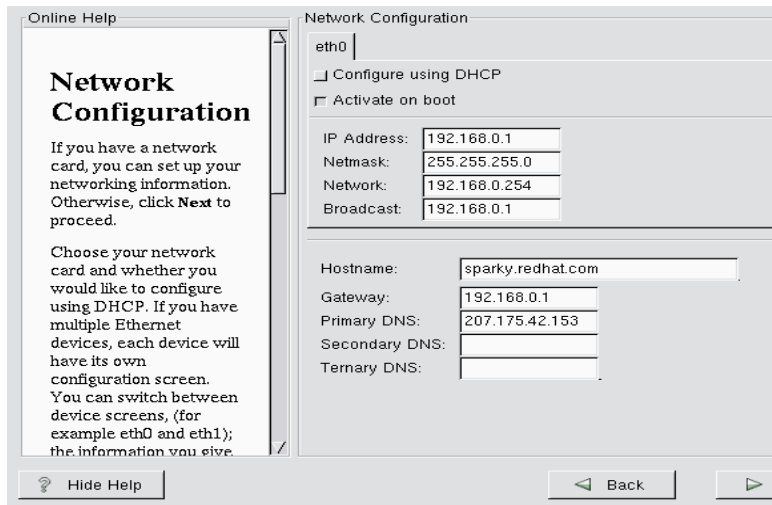

Figure 5 Network Configuration Window
1. To configure the Ethernet card or port that connects to the L2 controllers via DHCP protocol (see Figure 5), begin by clicking the tab that corresponds to the Ethernet card or port in the **Network Configuration** window.